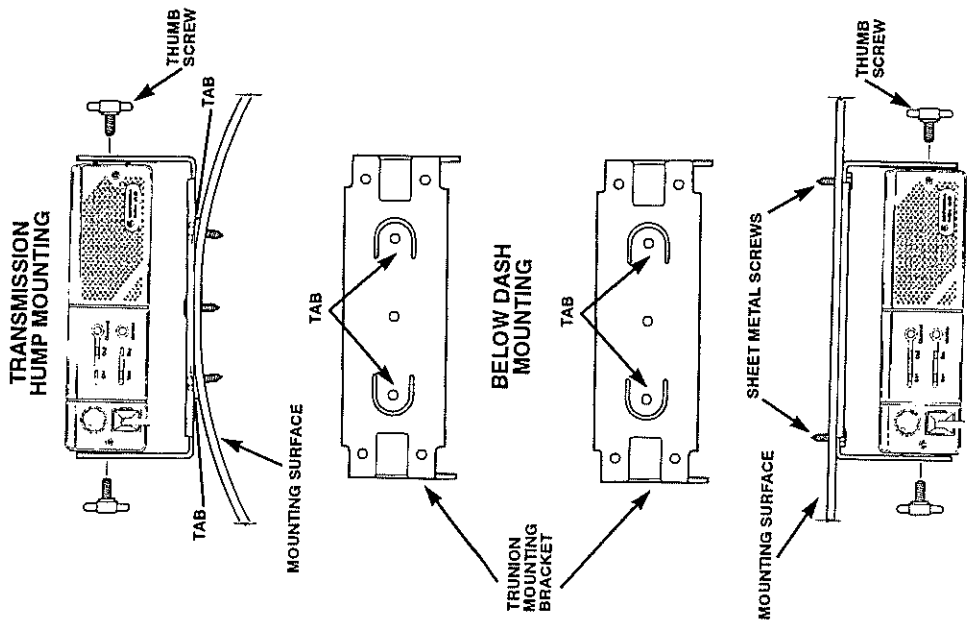

Figure 4. Trunion Mount for Radio
(See Figure 4)
1. Select the location to mount your radio either on the **Transmission Hump or Under the Dash** (see Figure 4).